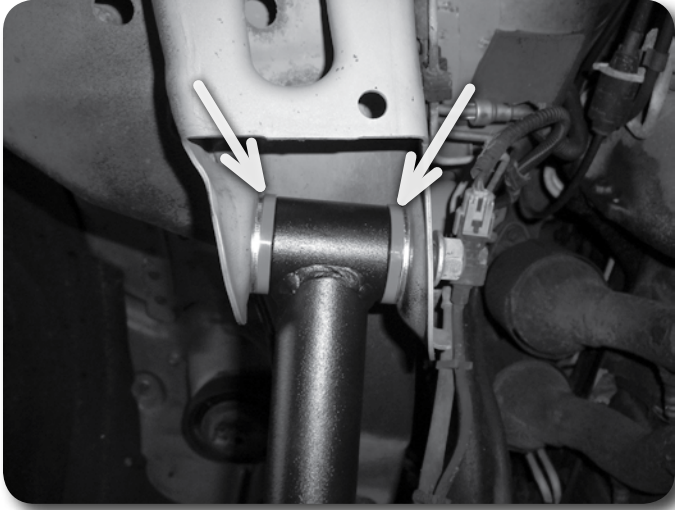

Figure 7A
13. Working on one side of the vehicle at a time, remove the lower control arm from the vehicle. Install the new control arm assembly in the frame and axle mounts **Figure 7A, 7B** with the factory hardware (refer to step #2 for correct orientation). At the frame end, install a provided spacer washer on each side of the control arm end between the bushing face and the bracket. Leave hardware loose.